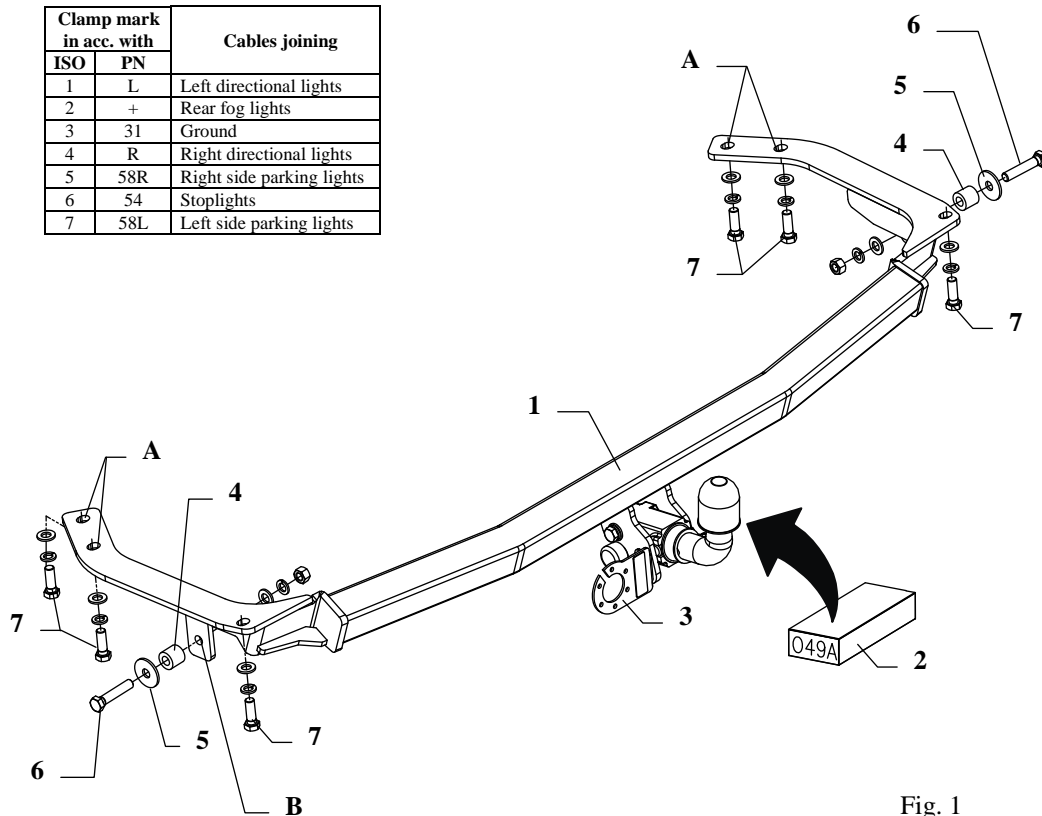

Fig. 1
3. Apply the main bar of the towbar (pos. 1) to the automobile frame, that way so holes of the towbar (pos. A) be covered with factory-made threaded holes. Fix using bolts M12x1,25x35mm (pos. 7).
4. Through holes (pos. B) fix with factory-made holes. Use distance sleeves  $\varnothing 25 \times \varnothing 13 \text{ mm}$ ,  $L=23 \text{ mm}$  (pos. 4), washers  $\varnothing 37 \times \varnothing 13 \times 3 \text{ mm}$  (pos. 5) and bolts M12x60mm (pos. 6) as showed on the fig. 1.